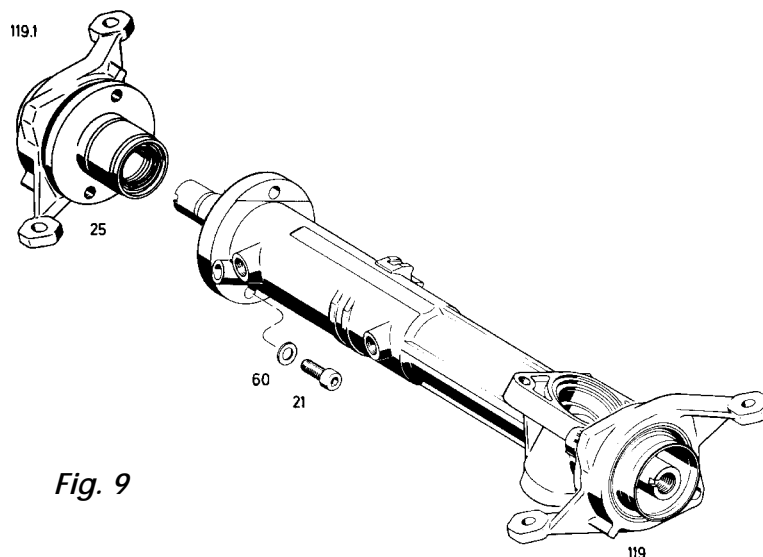

Fig. 9
Screw out the cap screws (21) with washers (60) (Fig. 9).